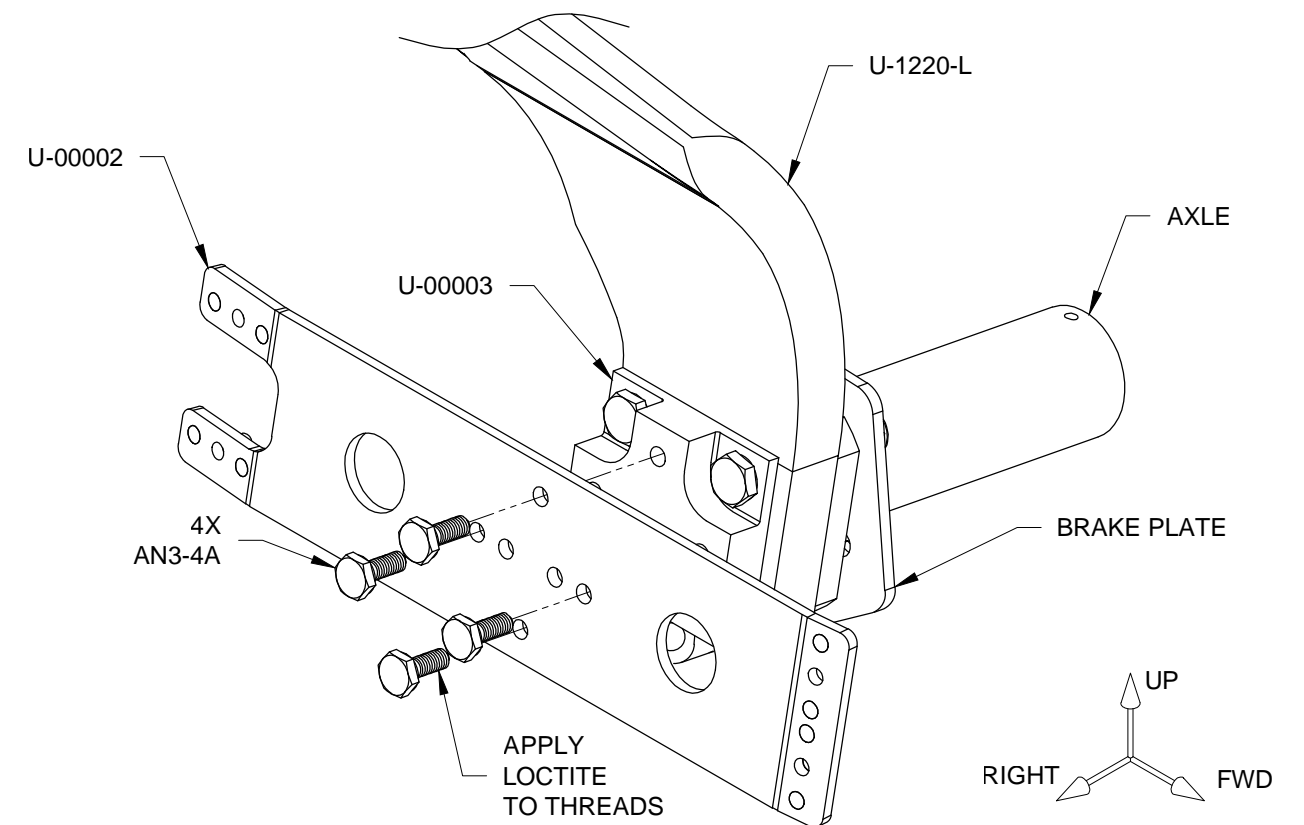

FIGURE 3:
Step 3: Attach one of the U-00002 Wheel Fairing Brackets to the U-00003 Bracket Mount as shown in Figure 3.